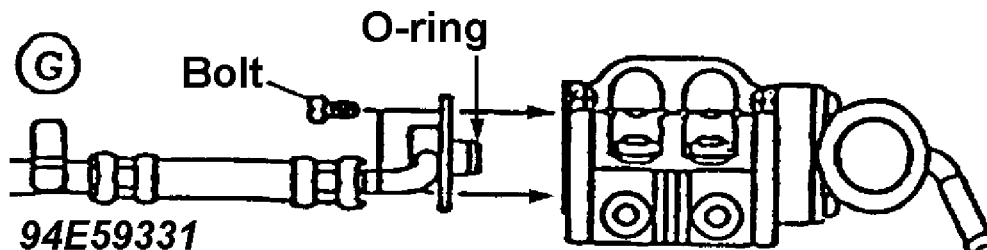

Fig. 52: Primary Fuel Distributor Outlet Modified Hose
26. Install the modified fuel hose on the primary fuel distributor outlet side. See Fig. 52.
\* Replace the bolts with modified ones. See letter G in Fig. 52.